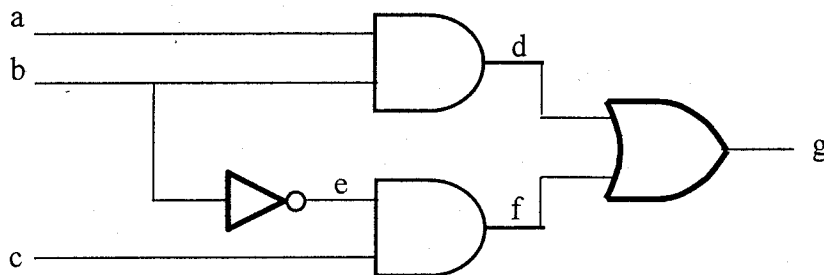

Figure 4a Combinational circuit to be tested
- c) A partially completed fault detection table for the combinational circuit of figure 4a is illustrated in fig 4b (see attached sheet at end of examination paper). Complete the fault detection table and derive a minimal test vector set for the circuit. (6 marks)